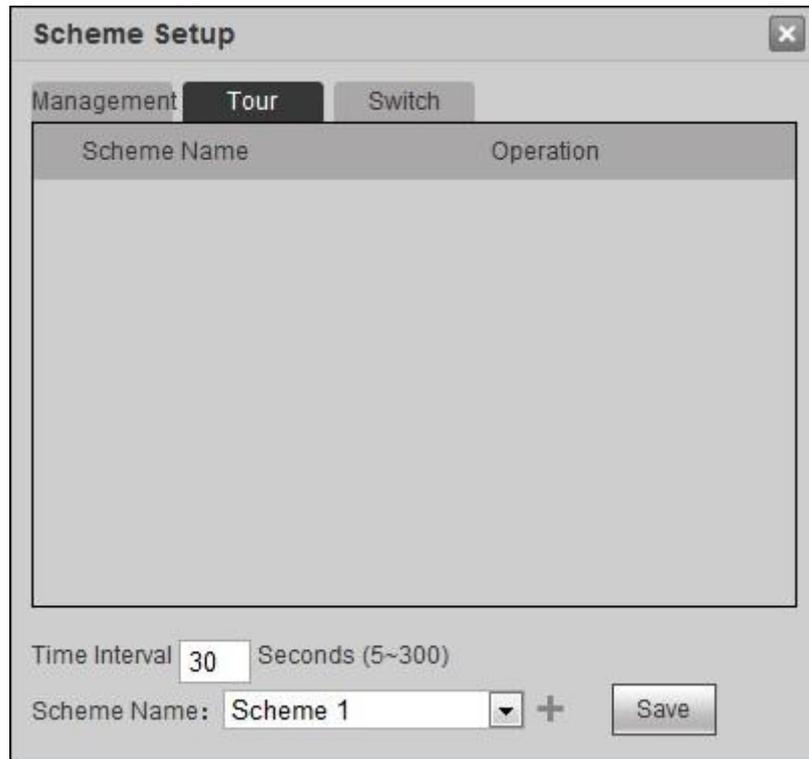

Figure 3-17
Step 1 Click  and select “Tour” tab. The system displays “Tour” interface, as shown in Figure 3-17.